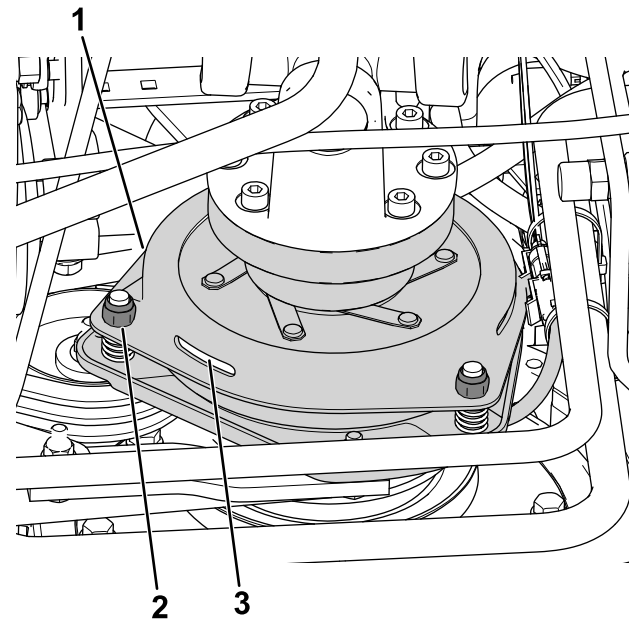

Figure 77
3. Adjust the air gap so that a 0.3 mm (0.012 inch) feeler gauge slides in between the clutch lining and friction plate with light pressure (Figure 77).
Note: You can decrease the gap by turning the adjusting nuts clockwise (Figure 77). The maximum service gap is 0.6 mm (0.024 inch). Adjust all 3 air gaps to 0.4 mm (0.012 inches).